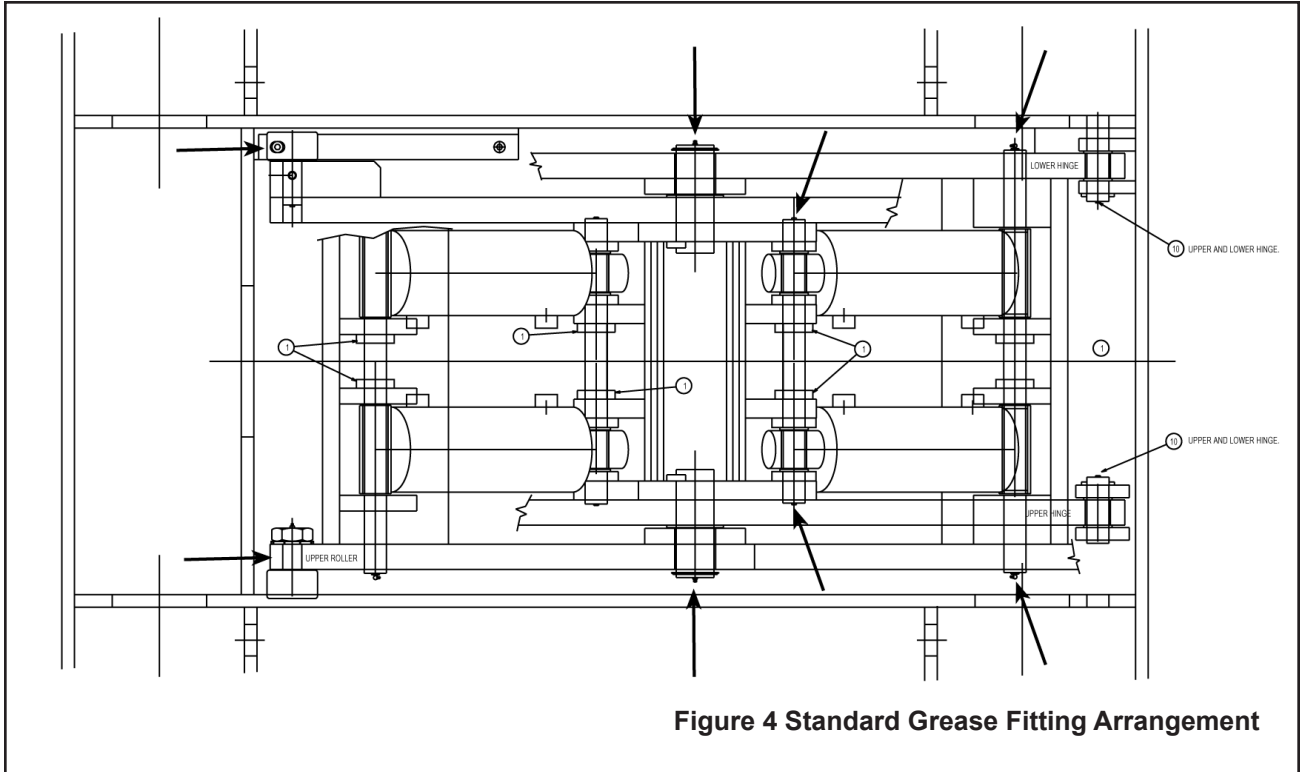

Figure 4 Standard Grease Fitting Arrangement
- * Grease all grease fittings (see Figure. 4)